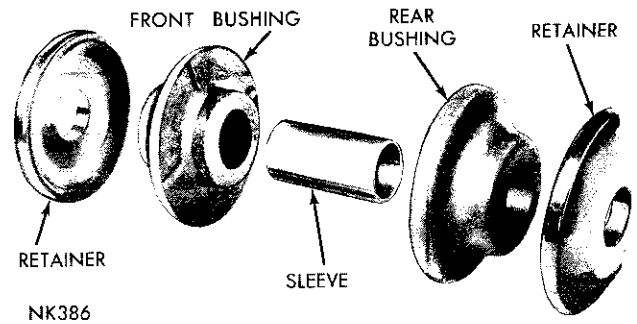

Fig. 14—Strut Bushing Assembly (Chrysler)
(6) Remove the strut front nut and bushing retainer.
(7) Remove the cotter pin, nut and washer from the lower control arm pivot shaft.
(8) Tap the end of the lower control arm shaft with a "soft end" hammer, to aid in removal of the shaft from the crossmember, and remove the lower control arm, shaft and strut as an assembly.
(9) Remove the strut bushings (Fig. 14) from the crossmember.
(10) Remove the strut bushing inner retainer from the strut.
(1) Install the strut inner bushing half (Fig. 14) in the crossmember.
(2) Place the strut bushing inner retainer on the strut and position the control arm, shaft and strut assembly into the crossmember.
(3) Install the outer strut bushing half, sleeve and retainer. Install the nut finger tight only.
(4) Install the control arm pivot shaft washer and nut finger tight only.
(5) Position the lower ball joint stud into the control arm. Tighten the nut 115 foot-pounds and install the cotter pin.
(6) Position the brake support on the steering knuckle and install the two upper bolts and nuts finger tight only.
(7) Position the steering knuckle arm on the steering knuckle and install the two lower bolts and nuts finger tight only.
(8) Tighten the upper bolt nuts 55 foot-pounds and the lower bolt nuts 100 foot-pounds.
(9) Inspect the tie rod for damage. Connect the tie rod end to the steering knuckle arm and tighten the nut 40 foot-pounds. Slide the tie rod end seal protector over the tie rod end and install the cotter pin.
(10) Connect the shock absorber to the control arm and tighten the nut 55 foot-pounds.
(11) Install the torsion bar.
(1) Remove the lower control arm, shaft and strut as an assembly.
(2) Remove the nut holding the strut to the control arm and remove the strut from the control arm.
(3) Inspect the strut bushings (Fig. 14).